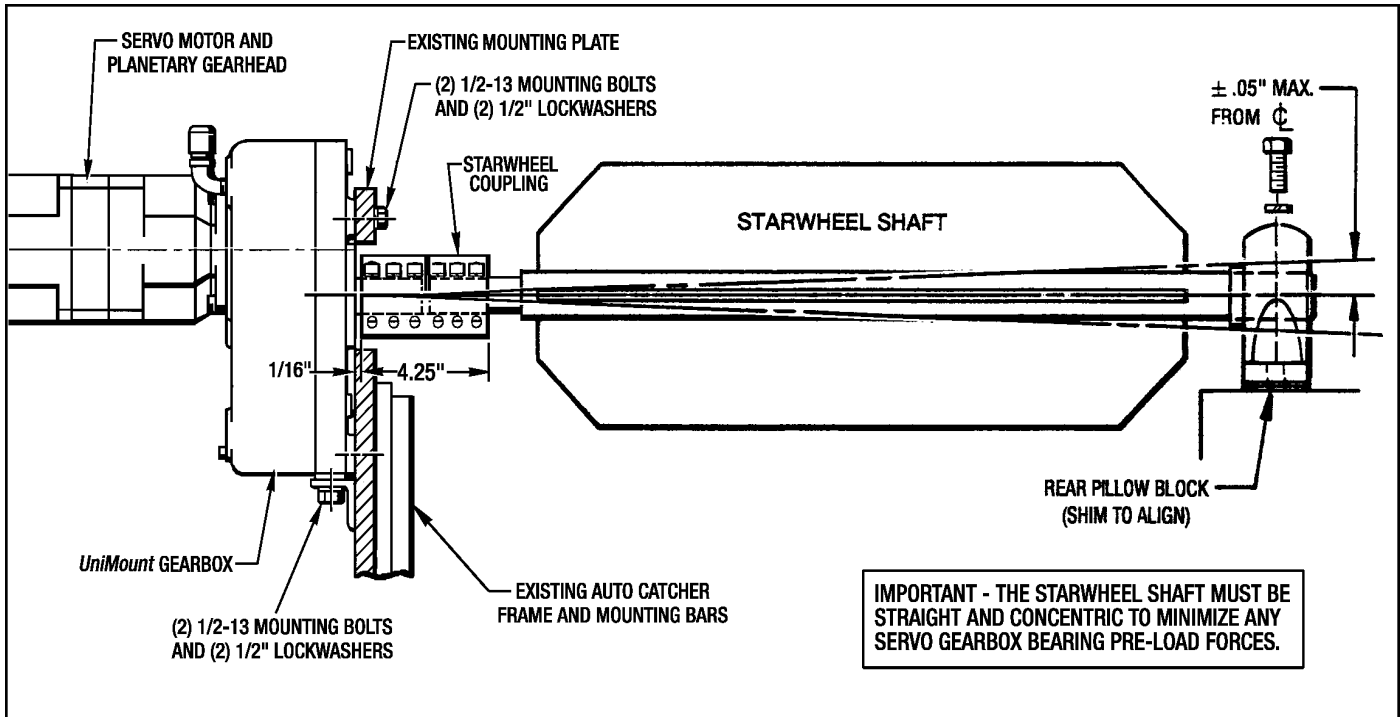

Figure 3.3 - Starwheel Shaft Alignment
6. Bolt the new *UniMount* Gearbox to the Auto Catcher frame or mounting plate with (4) 1/2"-13 Hex Hd. Bolts and (4) 1/2" Lockwashers as shown in Figure 3.3.
4. Rotate the Starwheel Coupling and Starwheel by hand. Check for bearing movement at the end of the shaft. Keep the shaft deflection less than .050" whenever possible for maximum bearing life in the *UniMount* Gearbox. (See *Figure 3.3* above.)
5. Rotate the Starwheel Coupling and Starwheel by hand. Check for bearing movement at the end of the shaft. **Keep the shaft and bearing deflection less than .05" whenever possible for maximum gearbox bearing life.**(See *Figure 3.3*.)